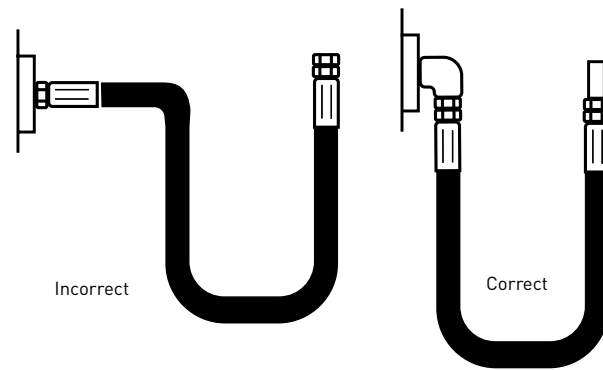

FIGURE 2 — ELBOWS AND ADAPTERS
5.22 Elbows and Adapters – In special cases, use elbows and adapters to relieve hose strain (see Figure 2).